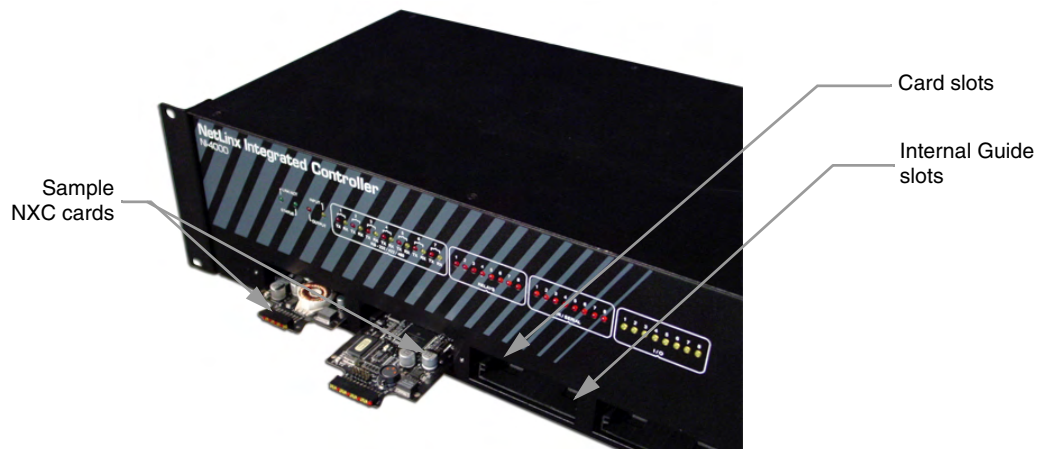

FIG. 20 Sample NXC cards inserted into an NI-4000 unit
3. Align the edges of the card with the internal guide slots and gently slide the card all the way into the slot (FIG. 20).